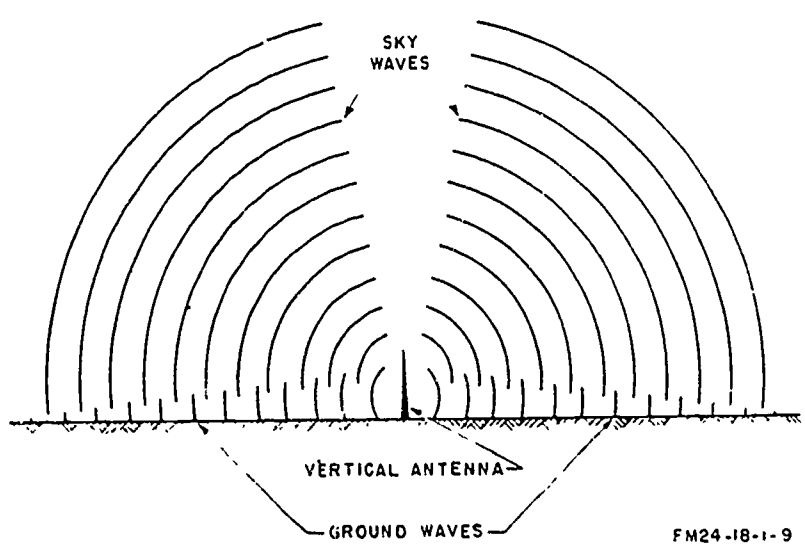

Figure 2-1. Radiation of radio waves from a vertical antenna.
b. Radio Frequencies. The RF range includes all frequencies above the AF range. Although these frequencies are not audible, they are useful as carriers for those frequencies that are audible. Radio waves travel near the earth's surface and are also radiated skyward at various angles to the earth's surface, as illustrated in figure 2-1.